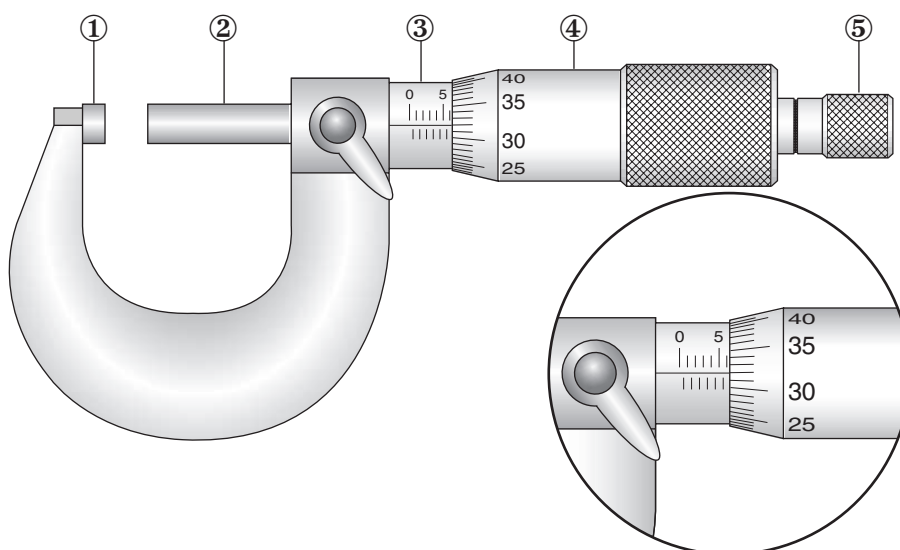

Figure 1
Figure 1 shows a graduated measuring device.
- (a) What is the name of the graduated measuring device shown in Figure 1? **1**
- (c) What is the reading on the graduated measuring device shown in Figure 1? **2**
- (d) Complete the table below by naming parts ①, ② and ③ as indicated on Figure 1. **3**